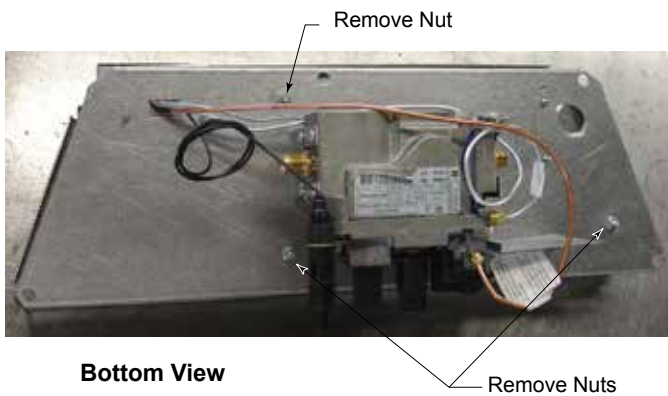

Fig. 81 Remove three (3) nuts securing ember bed in place.
- Remove three (3) 3/8" nuts on bottom side of burner pan. (Figure 81)